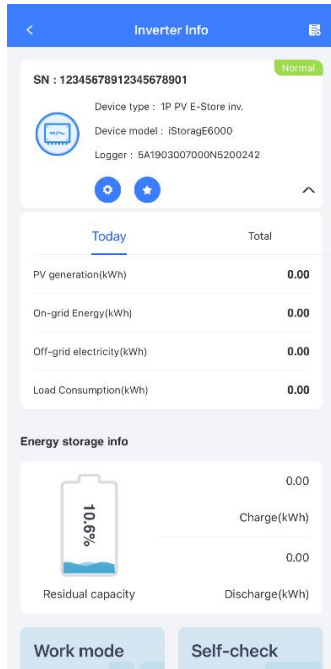

Figure4-25 Inverter information
Step 5 After the address of all DCDC modules is entered, the bottom "**Add device**" button will turn to gray, click "**OK**" to confirm the configuration, as shown in Figure4-25. 30s later, the address setting is completed.